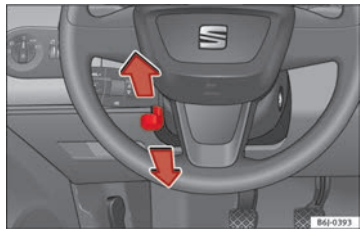

Fig. 111 Steering column height adjustment.
- Push the lever under the steering column ⇒ Fig. 111 down ⇒ ⚠.
- Adjust the steering wheel until the correct position is set ⇒ Fig. 111.
- Adjust the driver seat or steering wheel so that there is a distance of at least 25 cm between the steering wheel and your chest ⇒ Fig. 111. If you fail to observe the minimum distance, the airbag will not protect you. Risk of fatal injury.